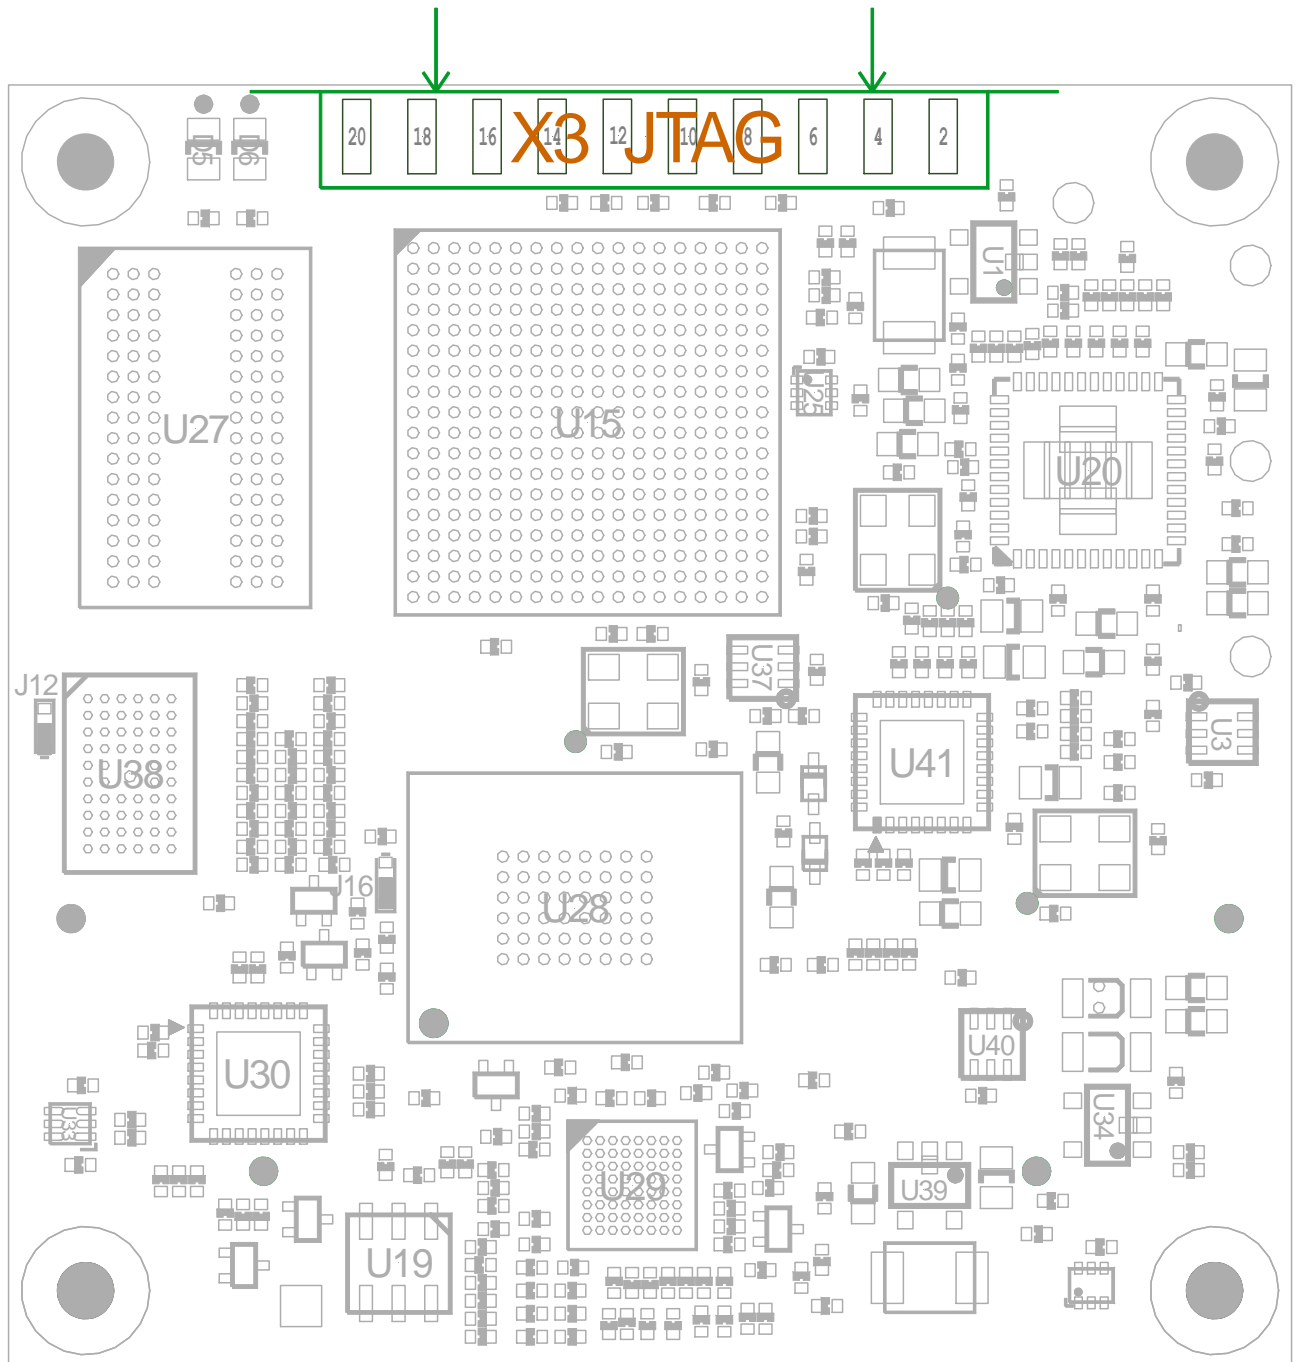
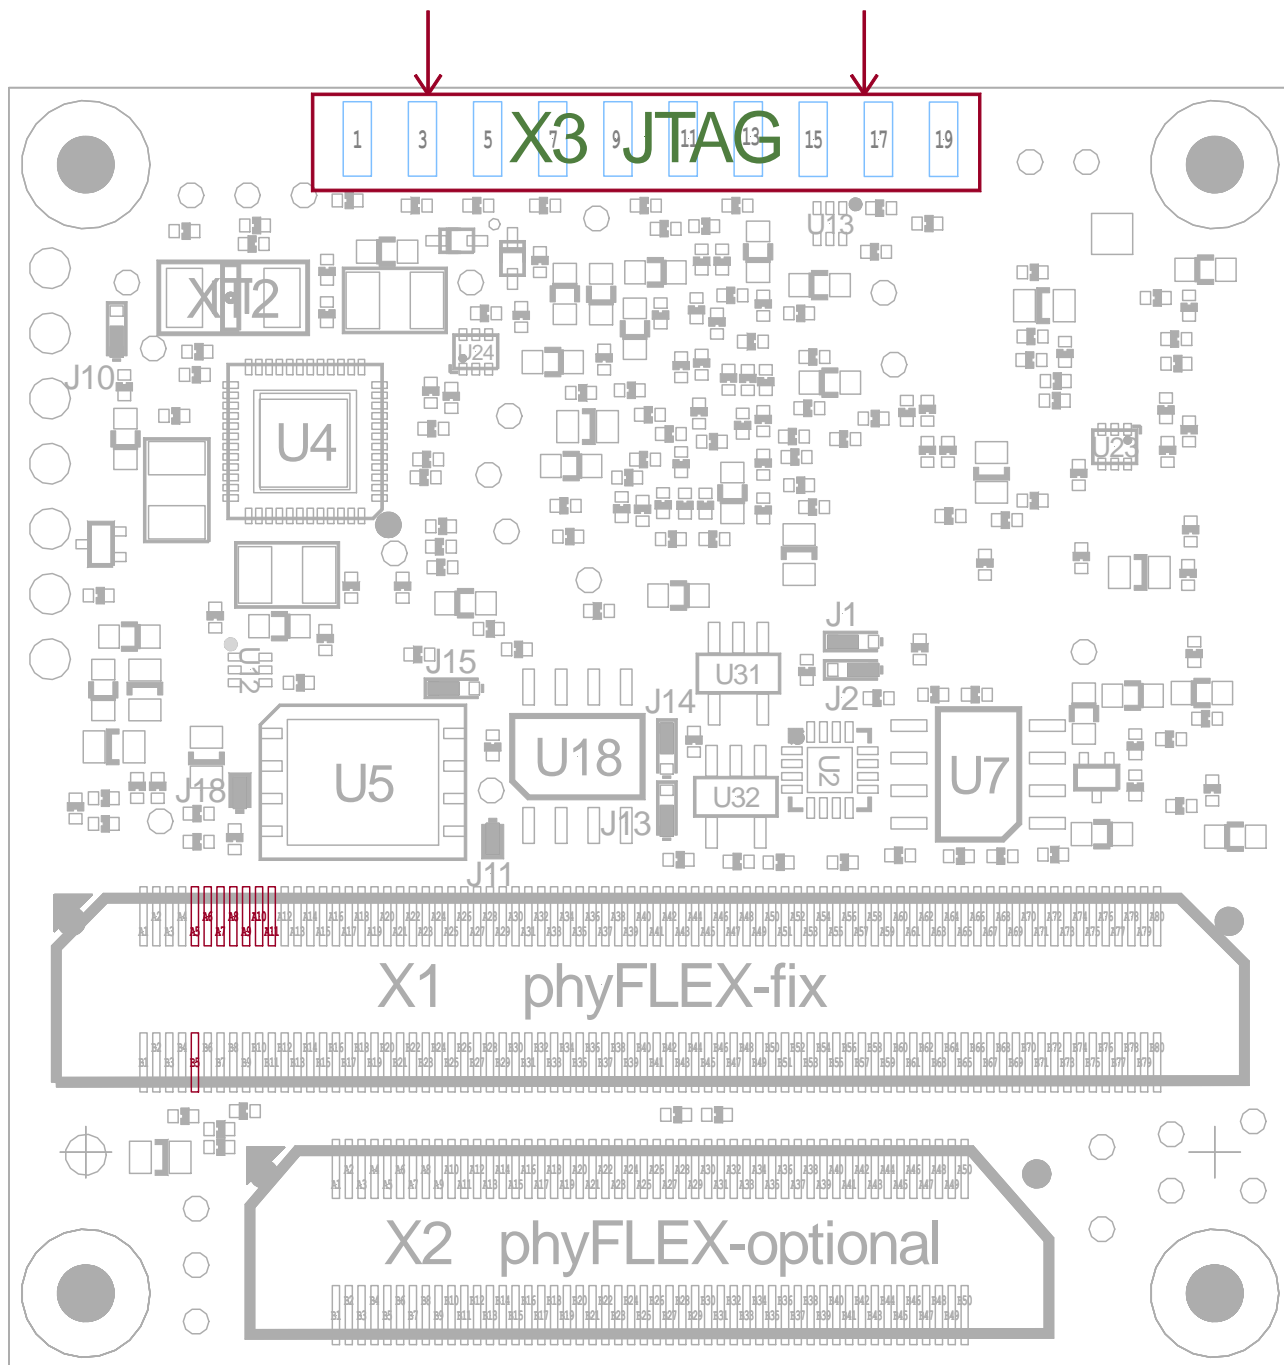

Figure 9: JTAG Interface X3 (top view)
Figure 10: JTAG Interface X3 (bottom view)
*Figure 9* and *Figure 10* show the position of the debug interface (JTAG connector X3) on the phyFLEX-AM335x module.